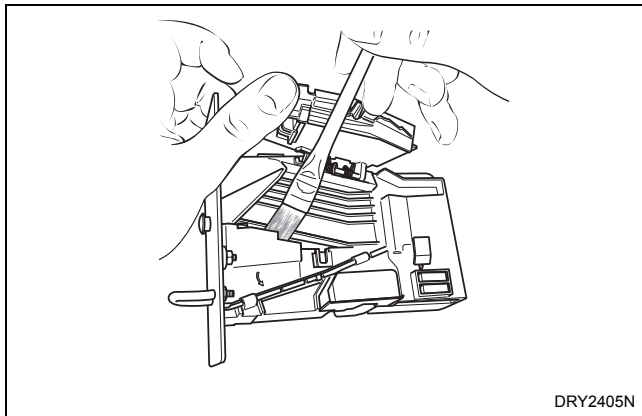

Figure 8
4. Clean the coin path with a soft brush and wipe exposed surfaces with an alcohol moistened cloth. Refer to *Figure 8*.